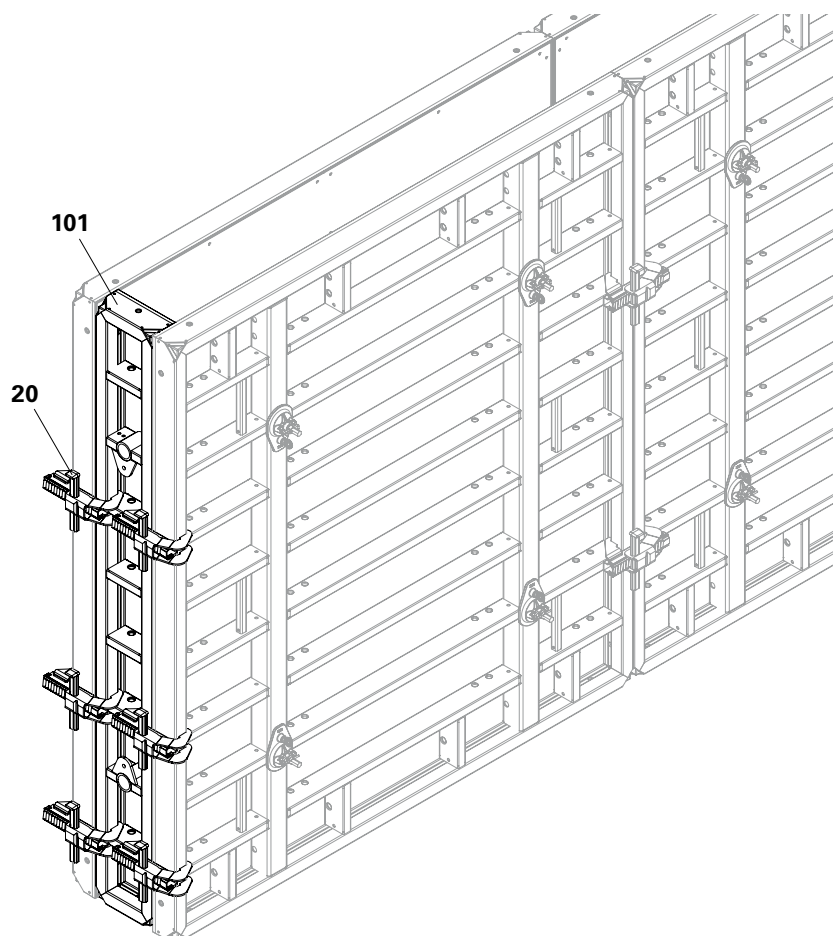

Fig. B10.07
Use Panel MX 270 x 30 (101) as stopend panel for 30 cm wall thicknesses. (Fig. B10.07)